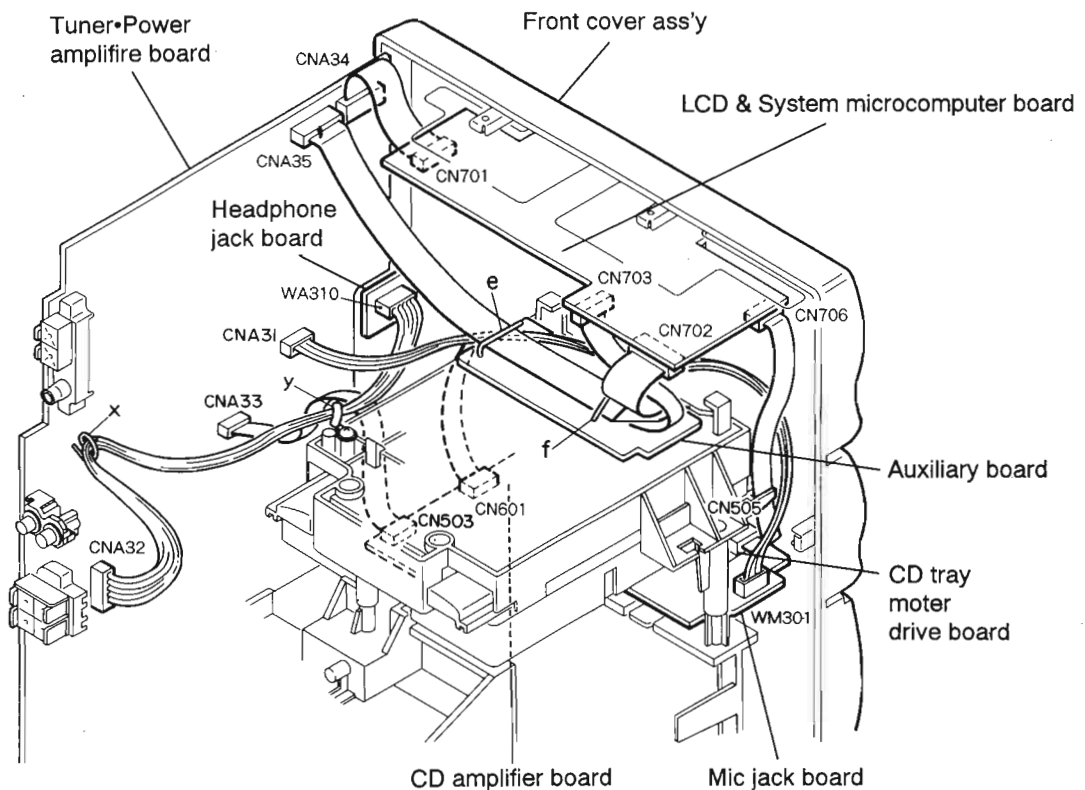

Fig. 5-9
6. From connector CN702 on the LCD and system microcomputer P.C. board, remove the card wire outgoing from the connector CNA35 on the tuner power amplifier P.C. board (Refer to Fig. 5-9).
7. From the connector CN701 on the LCD and system microcomputer P.C. board, remove the card wire outgoing from the connector CNA34 on the tuner power amplifier P.C. board (Refer to Fig. 5-9).
9. From the connector CN706 on the LCD and system microcomputer P.C. board, remove the card wire outgoing from the connector CN505 on the CD tray motor drive P.C. board (Refer to Fig. 5-9).
10. From the connector CNA31 on the tuner power amplifier P.C. board, remove the 4 PIN connector outgoing from the connector WM301 on the MIC jack P.C. board. Then, remove the 4 PIN connector from the two wire clamps on the auxiliary P.C. board and dismount the front cover ass'y (Refer to Fig. 5-9).